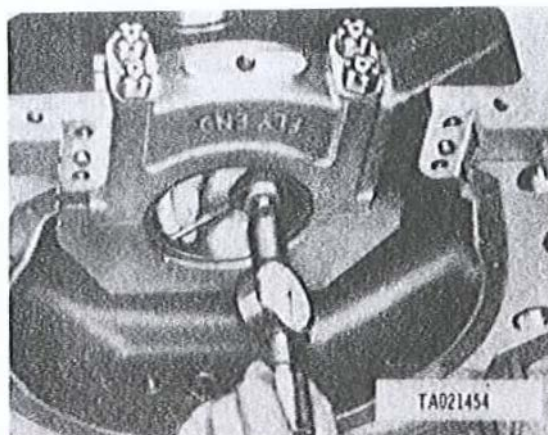

Figure 3-154. Checking inside diameter of main bearings.
(10) Starting at the main thrust bearing cap, with aid of an assistant to hold the nuts on the opposite side of crankcase, alternately tighten all main bearing cap engine crankcase rod nuts to 640 pound-inches torque.
(11) Check the inside diameter of the main bearings with a dial bore indicator as shown in figure 3-154 against the limits specified in repair standards (table 3-1). Replace bearings which do not meet these requirements. New bearings must also be dial bore checked. Remove the main bearing caps and bearing halves from the crankcase and check contact surfaces as indicated by Prussian transfer. Replace bearings that do not make 75 percent contact with crankcase bearing bores. Repeat dial bore check of new bearings installed.